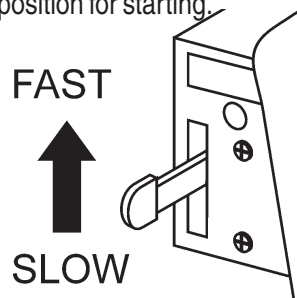

Figure 11. Throttle Lever (Fast Position)
3. Move the **throttle lever** (Figure 11) halfway between the **FAST** and **SLOW** position for starting.
3. Place the **throttle lever** (Figure 11) in the **SLOW** position. Idle engine 3-5 minutes for gradual cooling.
2. Place the **engine's throttle lever** (Figure 11) in the **SLOW** (idle) position.
3. Place the **engine's throttle control** (Figure 11) in the **SLOW** (idle) position.